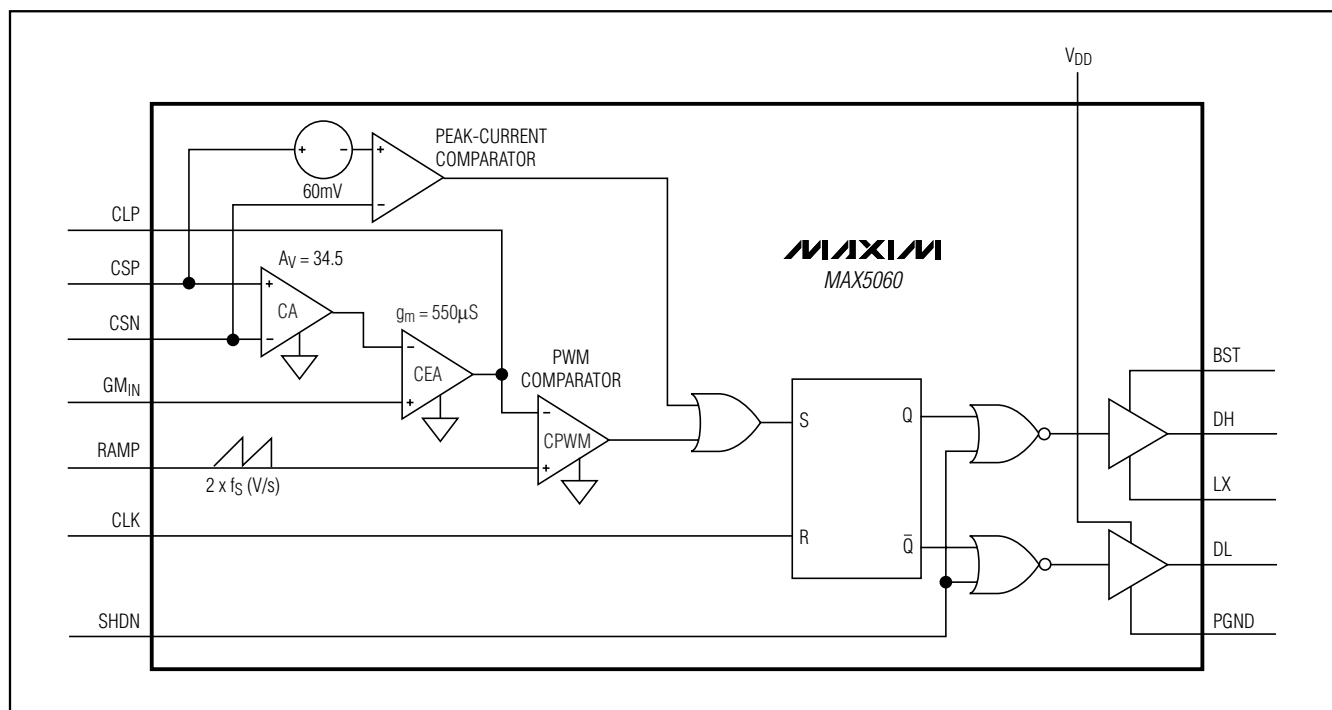

Figure 6. Phase Circuit
The current loop consists of a current-sense resistor (R_{SENSE}), a current-sense amplifier (CA), a current-error amplifier (CEA), an oscillator providing the carrier ramp, and a PWM comparator (CPWM) (Figure 6). The precision CA amplifies the sense voltage across R_S by a factor of 34.5. The inverting input to the CEA senses the CA output. The CEA output is the difference between the voltage-error-amplifier output (EAOUT) and the amplified voltage from the CA. The RC compensation networks connected to CLP provide external frequency compensation for the CEA. The start of every